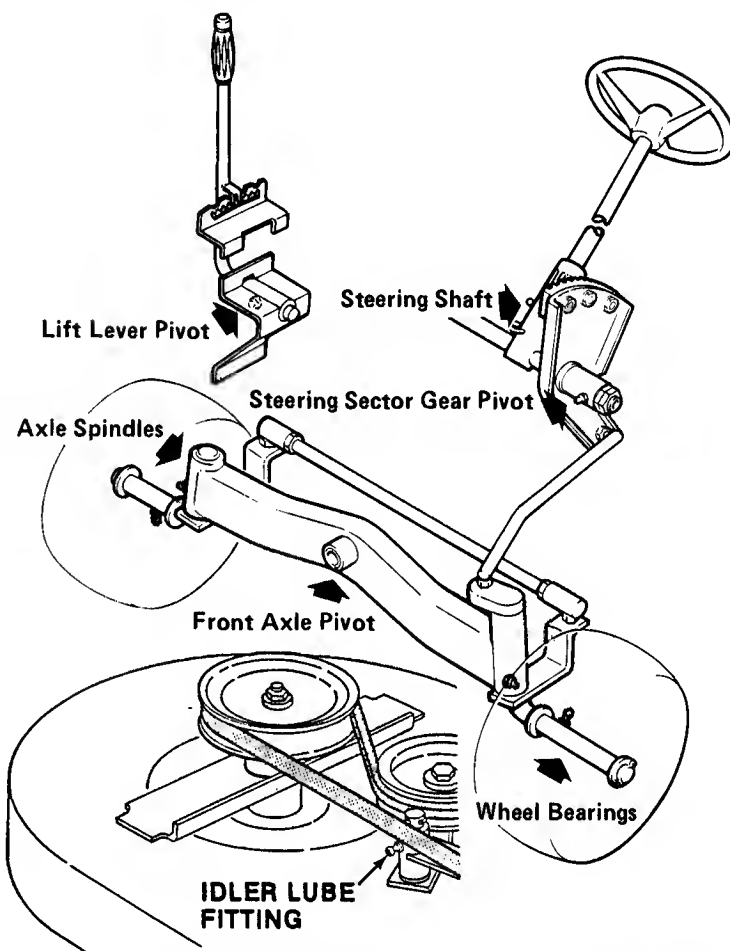

FIG. 14 - LUBRICATION POINT SCHEMATIC
2. Steering sector gear pivot under gas tank. See FIG. 14.